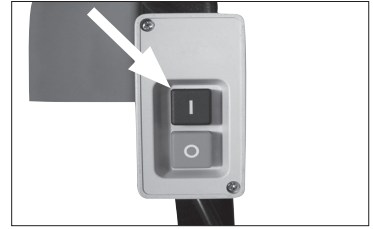

Fig. 08
Install the shredder in a dry place not exposed to weather and on a level floor. Be sure that the shredder tension is the same as the electric outlet. Connect the power cord to the switch. To switch the shredder on, press the black button (I) located on the side of the machine. To switch off, press the red button (0) [Fig. 08].